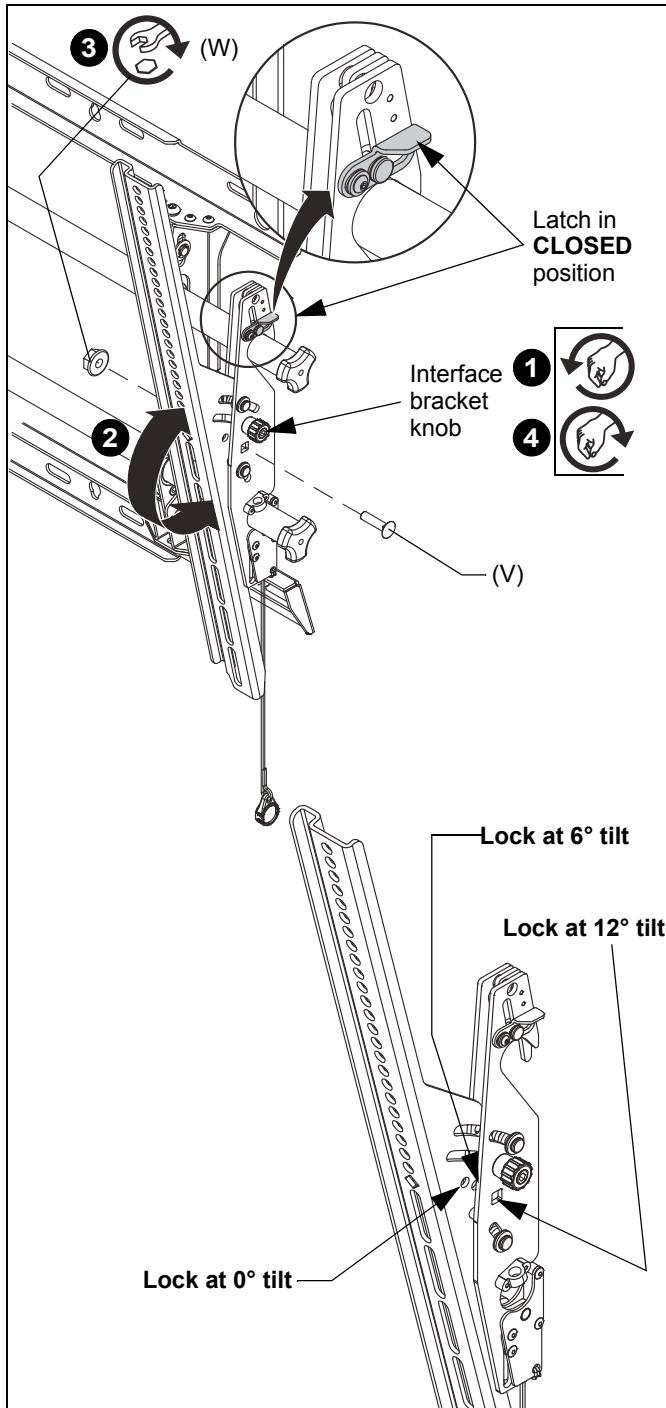

Figure 13
- Move latch on top of interface brackets to **CLOSED** position. (See Figure 13)
2. Adjust tilt as required. (See Figure 13)
3. The tilt may be locked at 0°, 6° or 12° using one 1/4-20 x 1" round head carriage bolt (V) and one 1/4-20 hex nut (W) per interface bracket. (See Figure 13)